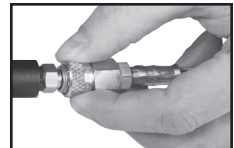

Fig. 6A
3. Rotate the Cover away from the AIRBOW. Lift and move the Cover forward to allow the retaining tab to exit the AIRBOW stock (Fig. 6A). Stow for replacement later.